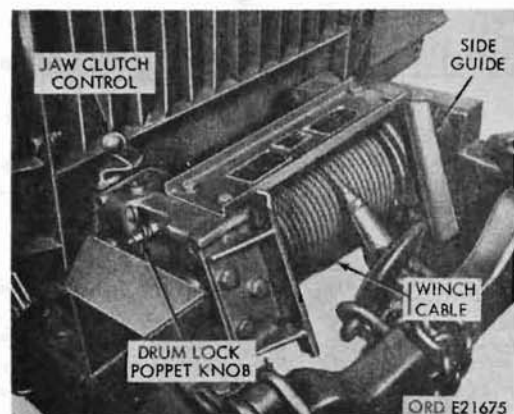
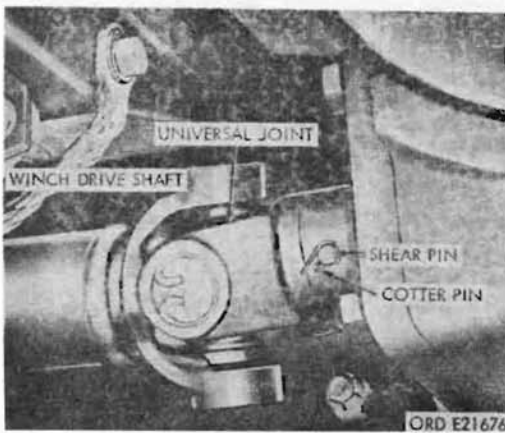

Figure 231. Front winch
Figure 232. Front winch drive shaft and shear pin
- (1) A horizontal drum-type front winch (fig. 231) is mounted at the front of some trucks between the radiator and front bumper. The winch is secured to the support brackets attached to the chassis frame side rail extensions. A clutch control lever locking plate is supplied on the later vehicles for locking the clutch control lever. The power for operating the winch is supplied by the truck engine through the front winch drive shaft connected to the transmission power takeoff. The drive shaft is connected to the winch drive worm by an aluminum alloy shear pin (fig. 232). This shear pin is installed to protect
a. General. The front universal joint of the front winch drive shaft is connected to the winch drive worm shaft by an aluminum alloy shear pin (fig. 232). The stop collar is positioned on the drive shaft 3/4 inch ahead of the rear universal joint to prevent the drive shaft from dropping off the winch drive worm shaft if the shear pin breaks.
b. Shear Pin Replacement. When the shear pin fails, slide the universal joint along the winch drive worm shaft to expose the shear pin hole. Remove the broken parts of the shear pin. With the universal joint in position, lubricate and insert a new aluminum alloy shear pin. Install two cotter pins (fig. 232). Check the stop collar adjustment (c below).
- (1) Remove the front winch cable from winch drum by disengaging the jaw clutch from the winch drum. Pull out the drum lock poppet knob (fig. 231). Turn knob to the out position and pull winch cable from drum. Loosen the setscrew and disengage cable from the clamp and drum.
- (2) Attach a hoist to the winch to support its weight.
- (3) Disconnect winch drive shaft (par. 213).
- (4) Remove the cotter pin from the shear pin and remove shear pin (fig. 232). Loosen the setscrew in the stop collar. Slide the universal joint free of the winch drive worm shaft.